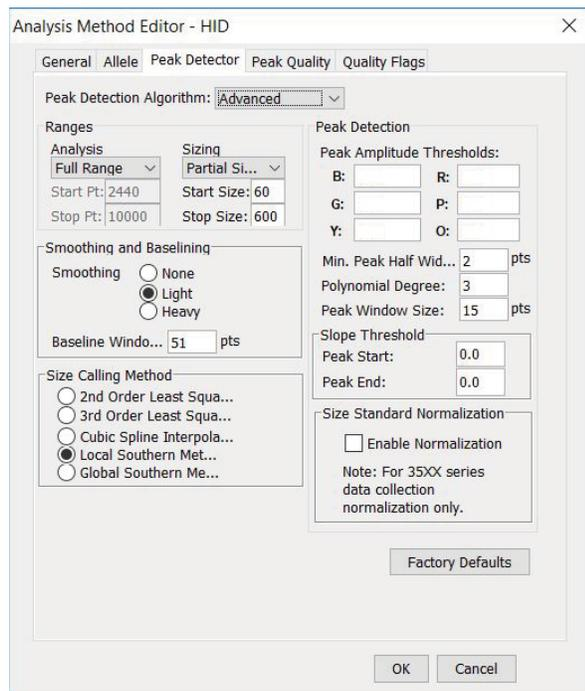

Figure 27. 'Peak Detector' tab settings.
6. To verify or set the correct peak detection settings, choose the 'Peak Detector' tab. Enter the peak amplitude threshold values for your laboratory, and leave all other settings as shown in Figure 27.